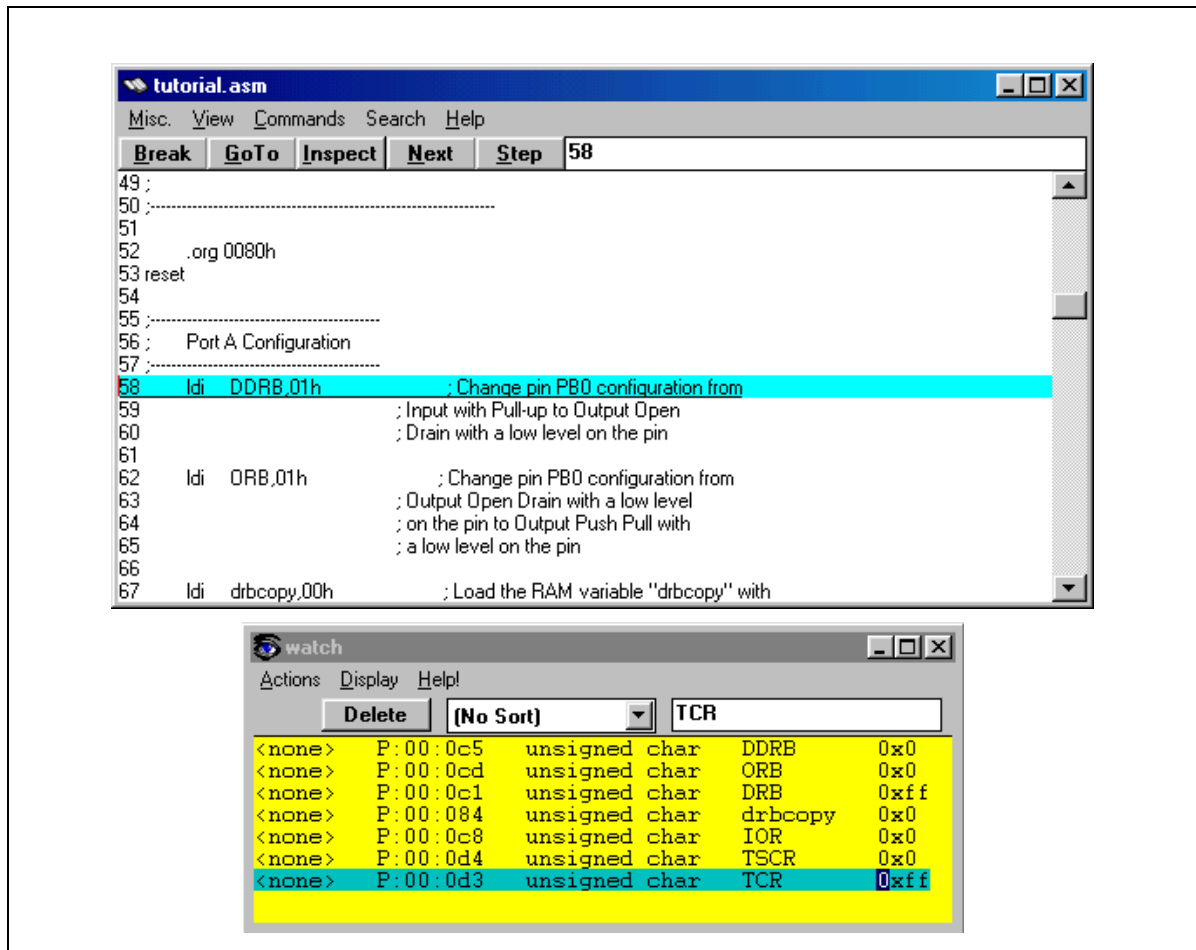

Figure 14: tutorial.asm and Watch windows
**Results:** The **Watch** window shows the DRB value to be FFh in hexadecimal as shown in *Figure 14*. This is due to the Port B configuration: all the Port B I/